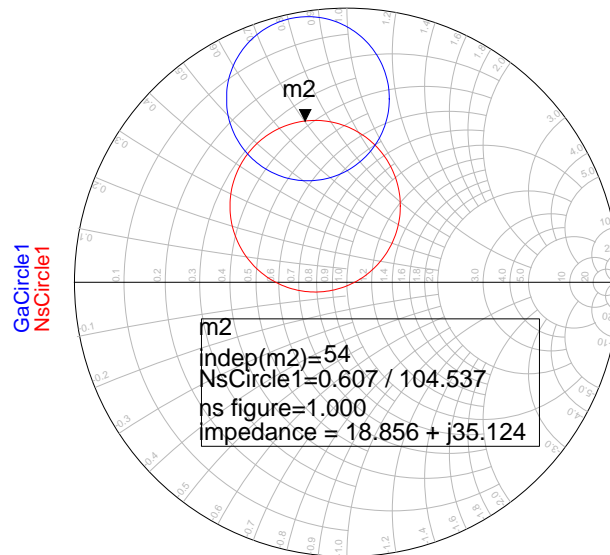

Figure 7
Step 2. Choose Γ_S as the intersection of the two circles (or somewhere inside the overlapping area). This ensures $G_A > 16dB$ and $NF < 1dB$ (some margin has been considered to ensure the specifications are met). According to Figure 7,